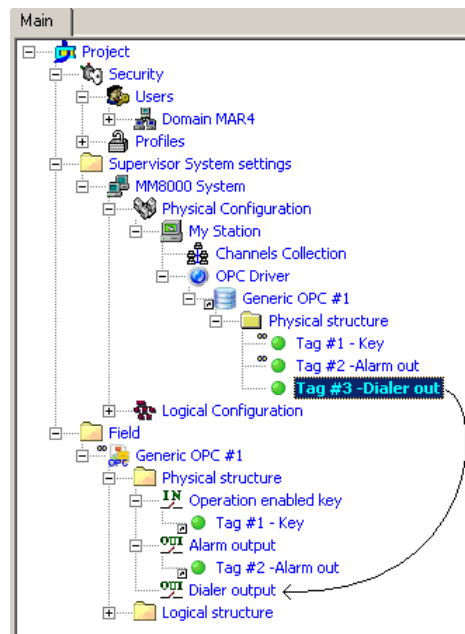

Fig 38 Linking OPC items and points
3. Drag and drop each OPC item (Tag) node to the corresponding point (Fig 38)